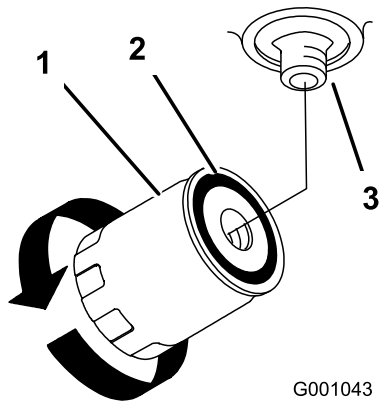

Figure 74
7. Apply a thin coat to the rubber gasket on the replacement filter (Figure 74).
adapter, then tighten the filter an additional 1/2 turn (Figure 74).